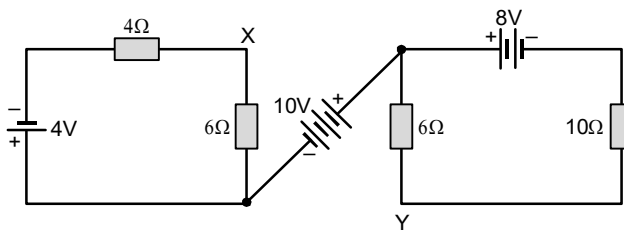

Fig. 1.61: Given network
6. What is the difference of potential between X and Y in the network shown in fig.1.61. (Ans. $9.4V$)